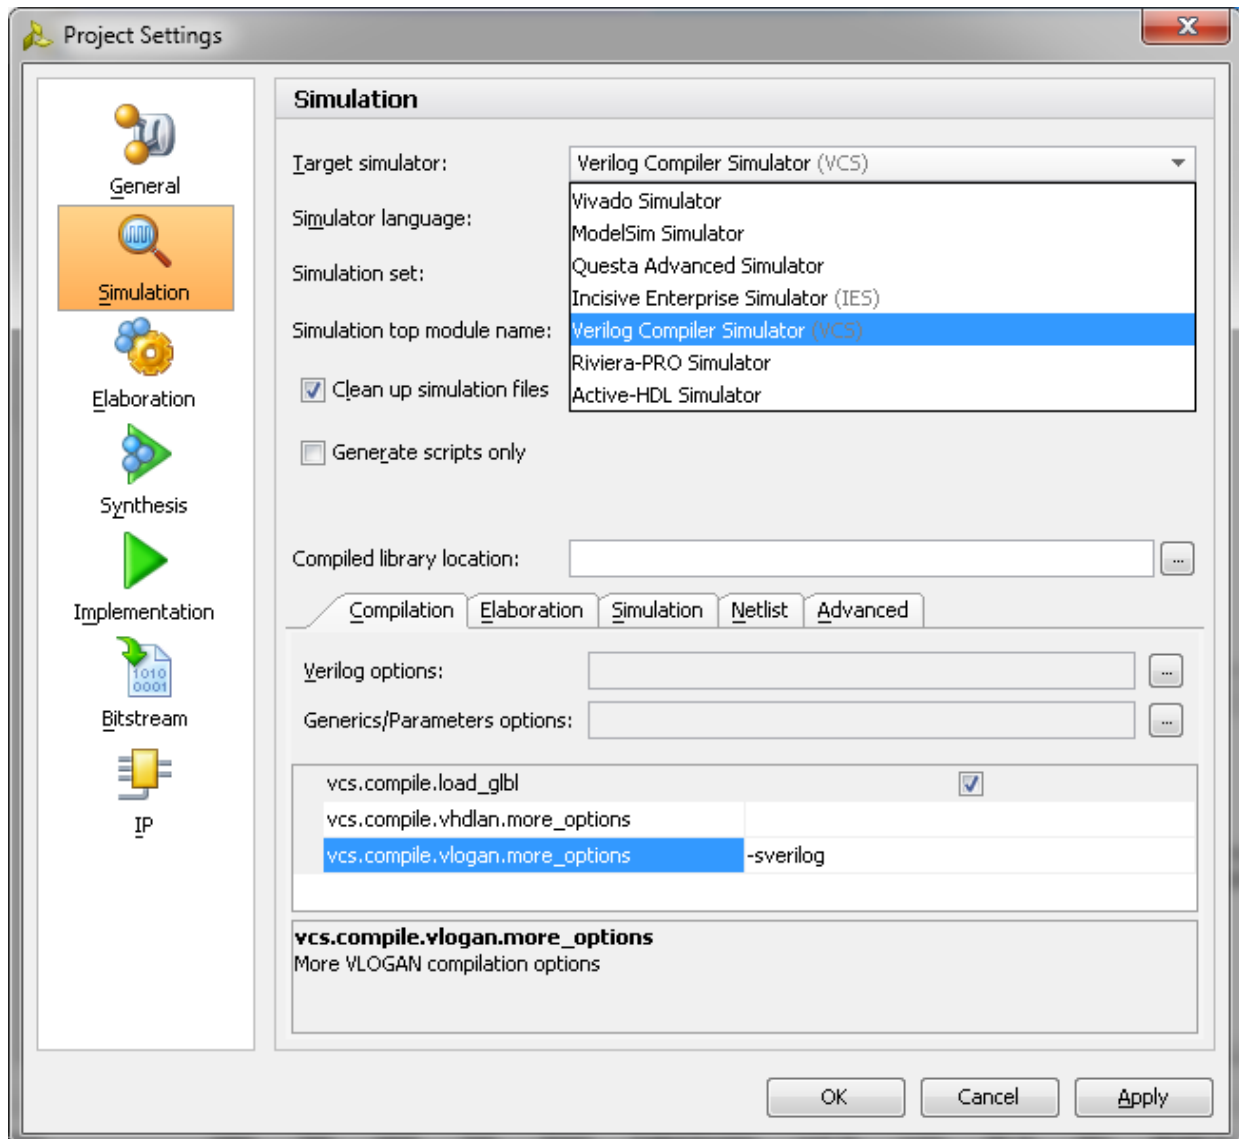

Figure 1-49: Simulation with VCS
- c. Under the **Simulation** tab, set the `vcs.simulate.runtime` to 1 ms (there are simulation RTL directives which stop the simulation after a certain period of time which is less than 1 ms) as shown in Figure 1-49.